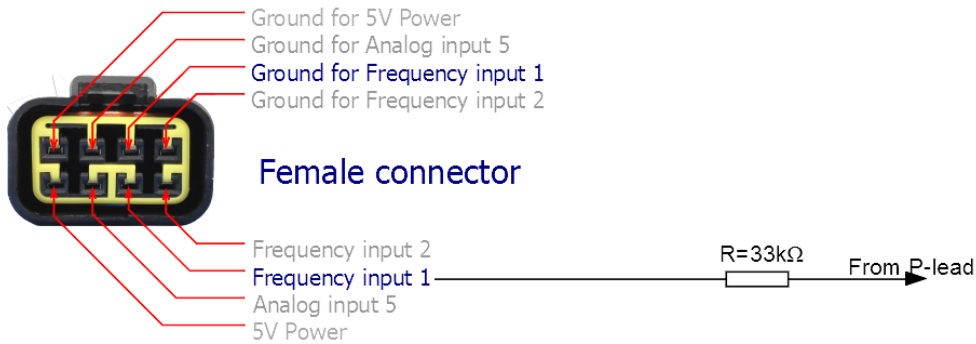

Figure 10: Direct P-lead sensing (view from unit side)
- Direct P-lead sensing from magnetos - Figure 10: Direct P-lead sensing